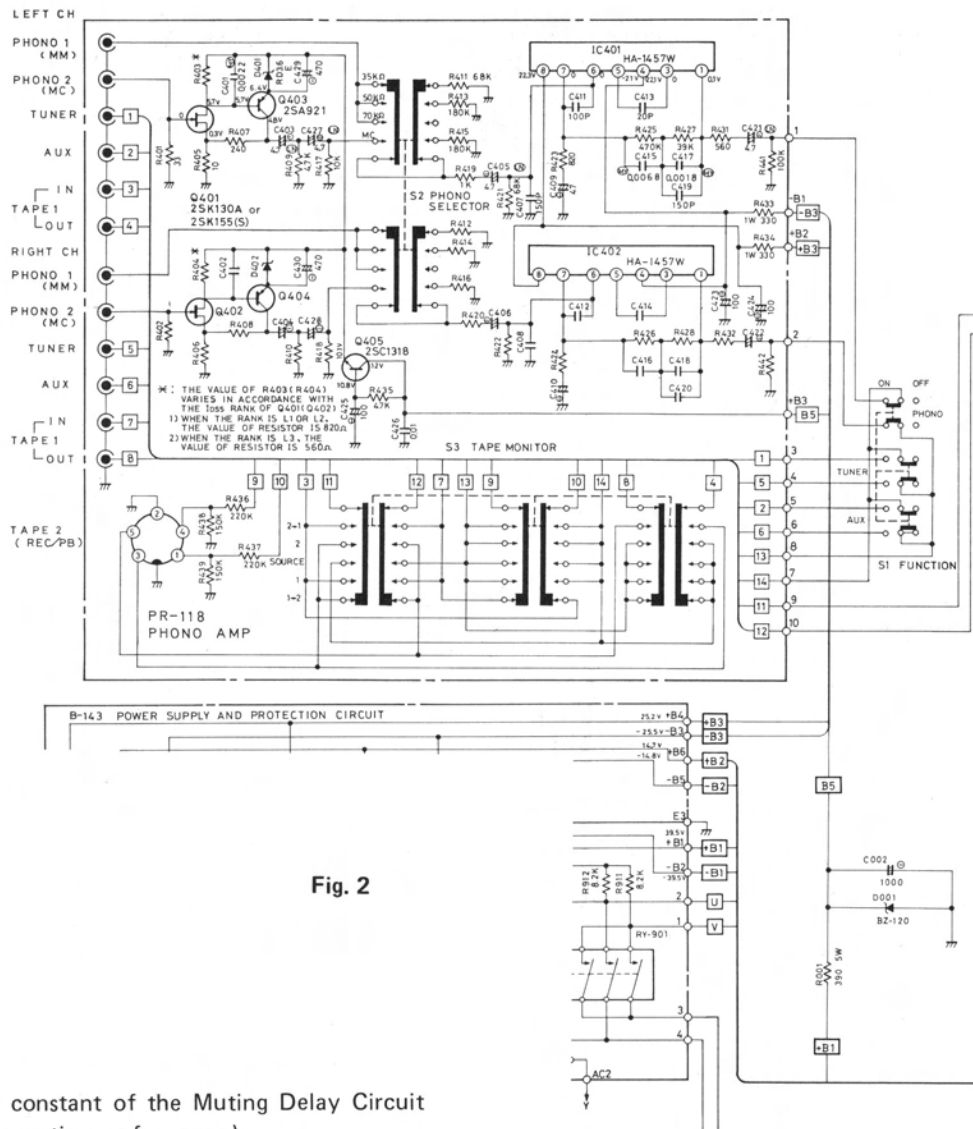

Fig. 2
- a) MC Head Amp Circuit is added to the Phono Amp Circuit. The Phono Circuit with built-in MC Head Amp is the same as that of the RC-1000. Because of this modification, the capacitors C423, and 424 on the Phono Amp Circuit is changed to 100mfd. +B Circuit is partly modified. Fig. 2 shows the modified and related portion.
- 2) Because of the change in (1), R403 and 404 are specified as 820 ohms only.
- 3) Electrolytic capacitors C429 and 430, 470mfd, are added in parallel with D401 and 402. (See Fig. 2 Phono Amp Circuit for RA-1000).